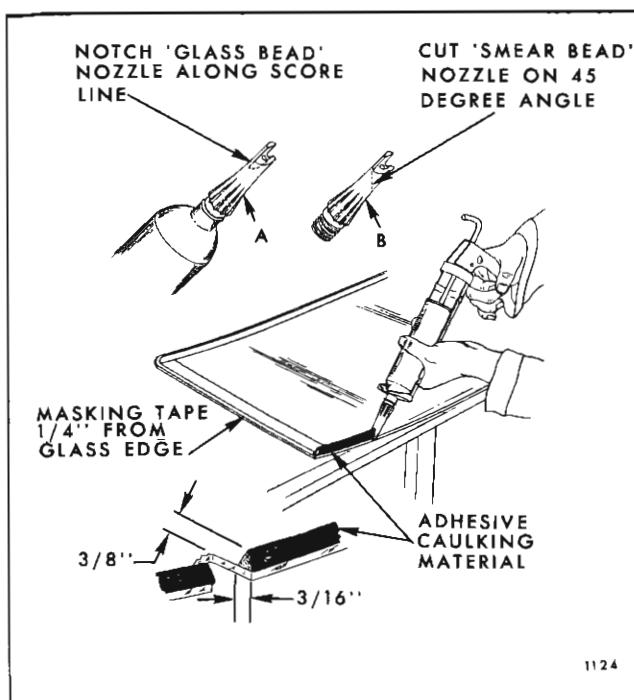

Fig. 2C11—Adhesive Caulking Material Application - Extended Method
15. Positioning the gun and nozzle as shown in Figure 2C11, carefully apply a smooth continuous bead of caulking material $3/8"$ high by $3/16"$ wide at base completely around inside edge of glass. When material in first tube is dispensed, quickly insert second tube and continue application of bead. After application, check bead and fill all voids and air bubbles.
17. With aid of helper, lift glass with one hand on outside of glass and one hand on inside of glass. Carefully move glass up to windshield opening, maintaining glass in a horizontal position. While one man holds glass in this position, the second man can reach around the windshield pillar and hold glass; then, first man can reach around windshield pillar (Fig. 2C7). Carefully position glass to plane of opening, making certain that glass is properly centered and positioned to opening and resting on
lower spacers. Use tape on glass and windshield pillars as a guide. (Fig. 2C9).